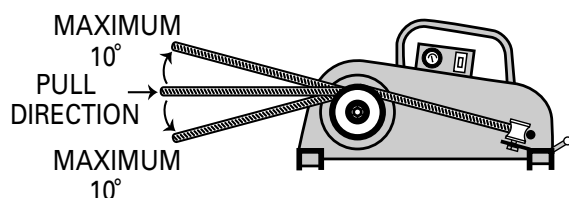

Figure 28b
Also note the pulling rope should approach the capstan as indicated in *Figure 28b*.
- Rope should approach capstan as shown in Figure 28b.